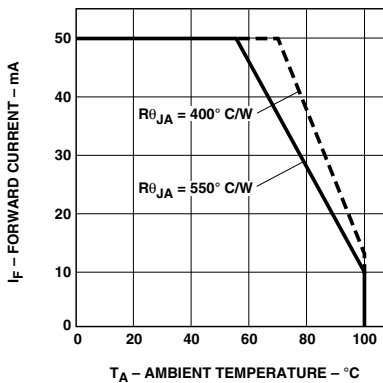

Figure 6. Maximum forward DC current vs. ambient temperature. Derating based on $T_{JMAX} = 110^\circ\text{C}$.
1. Derate linearly as shown in Figure 6.